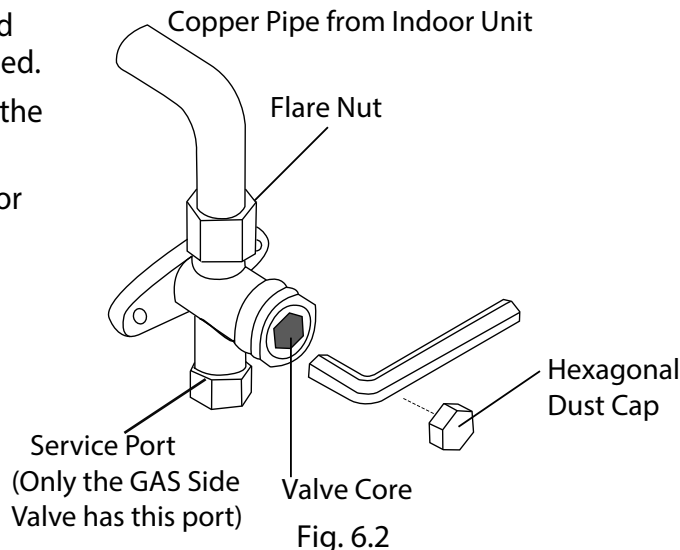

Fig. 6.2
8. If there is a rise (Vacuum Loss), refer to the Gas Leak Check section for information on how to check for leaks. If there is no change in vacuum reading, unscrew the cap from the LIQUID Side Service Valve (Fig. 6.2)